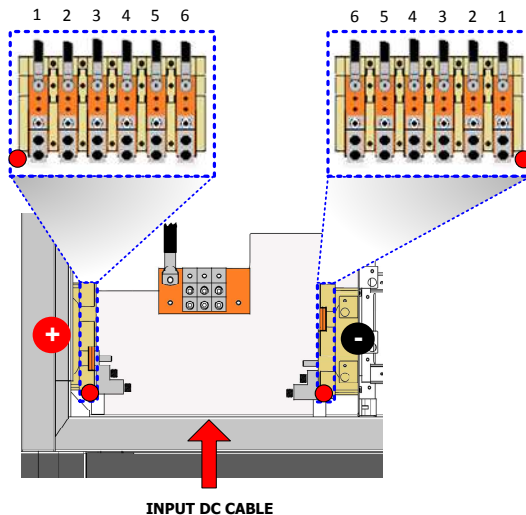

Figure 11-1: DC Cable connection
- ➔ Connect the cables in the input terminal block (Figure 11-1) respecting the correct polarities.